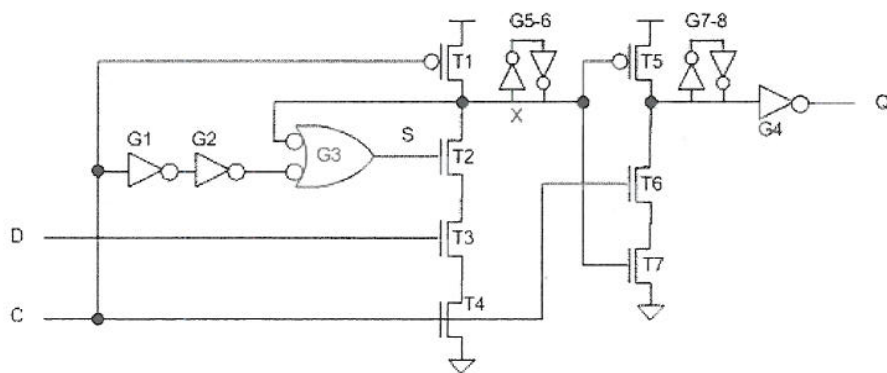

Figure 3.1
3. Figure 3.1 shows the circuit of a semi-dynamic D flip-flop.
- d) Design the layout of the circuit shown in Figure 3.1 in the form of a symbolic layout or a stick diagram.
The latches are clocked by the signals indicated in Figure 3.1, and all have inverting outputs. The bit compare logic module BCL together with the latch L1 implements the logic function: